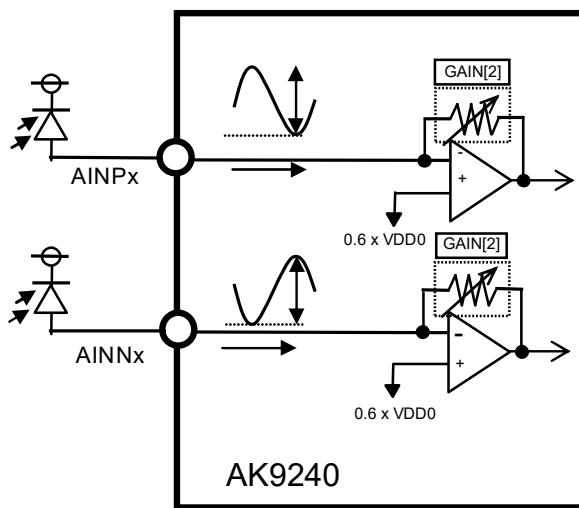

Figure 8. Current Mode Example
Figure 8 shows an usage example in Current Input Mode.
- \* 37. The current direction should only be incoming to the AK9240 as shown in Figure 8 in Current Input Mode.